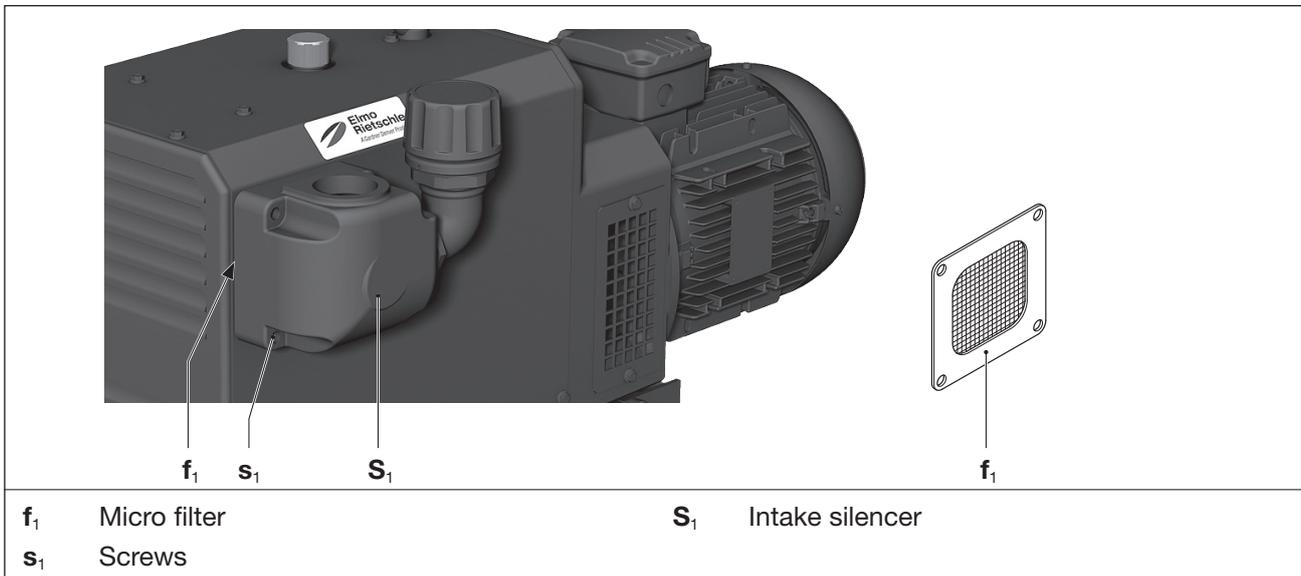

Fig. 9 Microfilter in intake silencer
- b) Release the four screws (Fig. 9/s₁) on the intake silencer (Fig. 9/S₁).
- c) Remove the intake silencer (Fig. 9/S₁) and the micro filter (Fig. 9/f₁) from the pump.